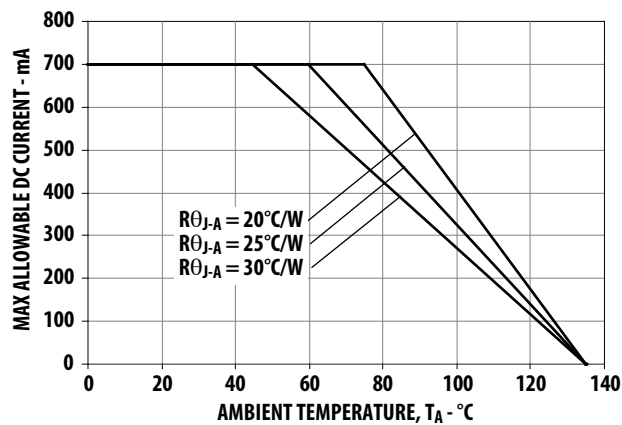

Figure 20. Maximum Forward Current vs. Ambient Temperature.
1. Derate linearly based on Figure 10 for AllnGaP and Figure 20 for InGaN.